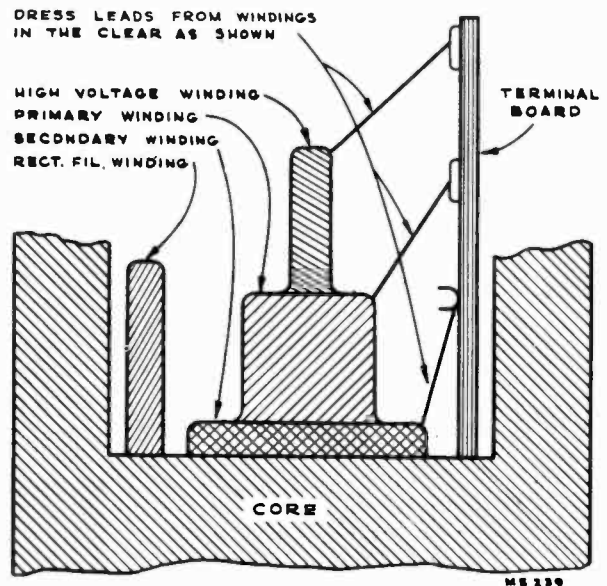

Figure 24--T110 Lead Dress
15. Dress T110 winding leads as shown in Figure 24